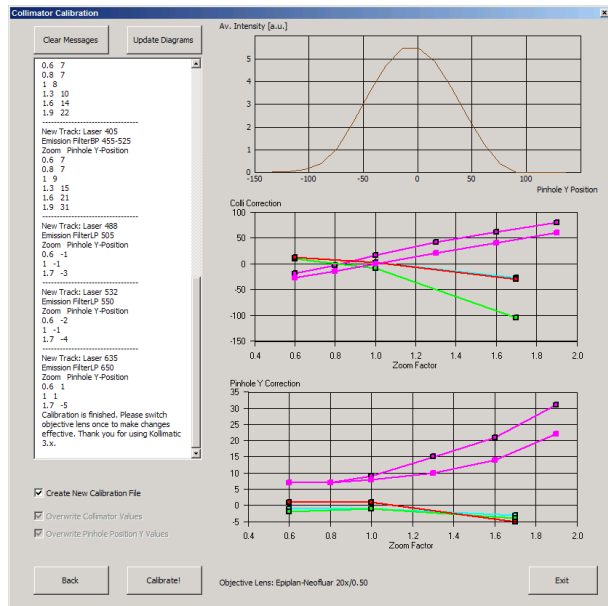

Fig. 5-16 Collimator Calibration window after calibration
- In order to follow the calibration process, just simply click into the Message Window and; a scroll bar will appear (Fig. 5-16).